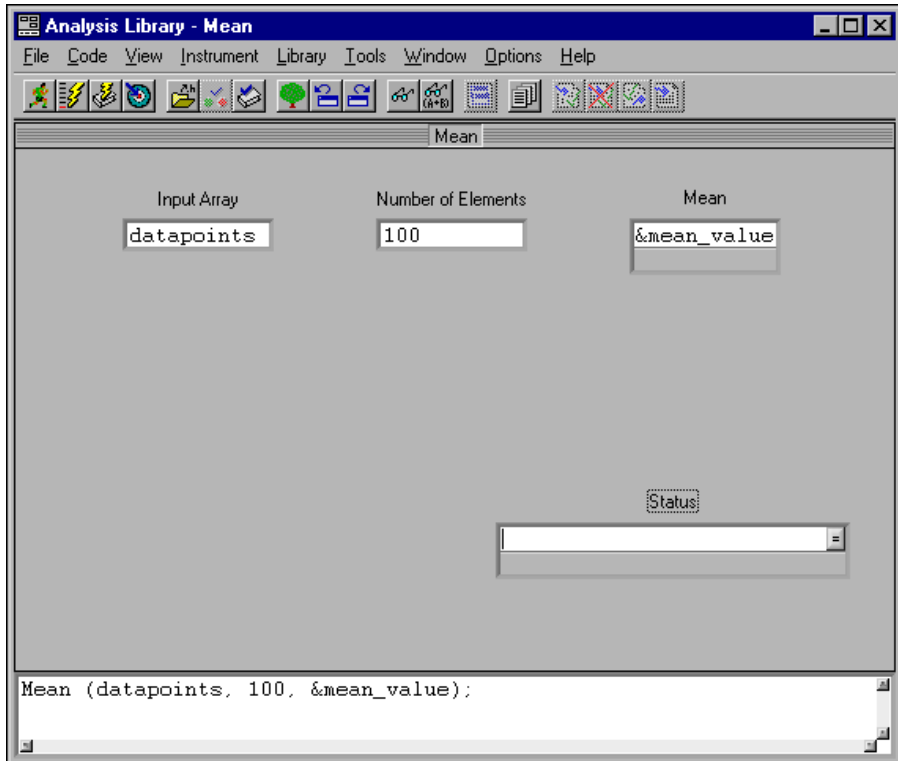

Figure 3-6. Completed Function Panel for Mean
1. Place your cursor in the **Mean** control and enter `&mean_value`. Confirm that your function panel window matches the one in Figure 3-6.